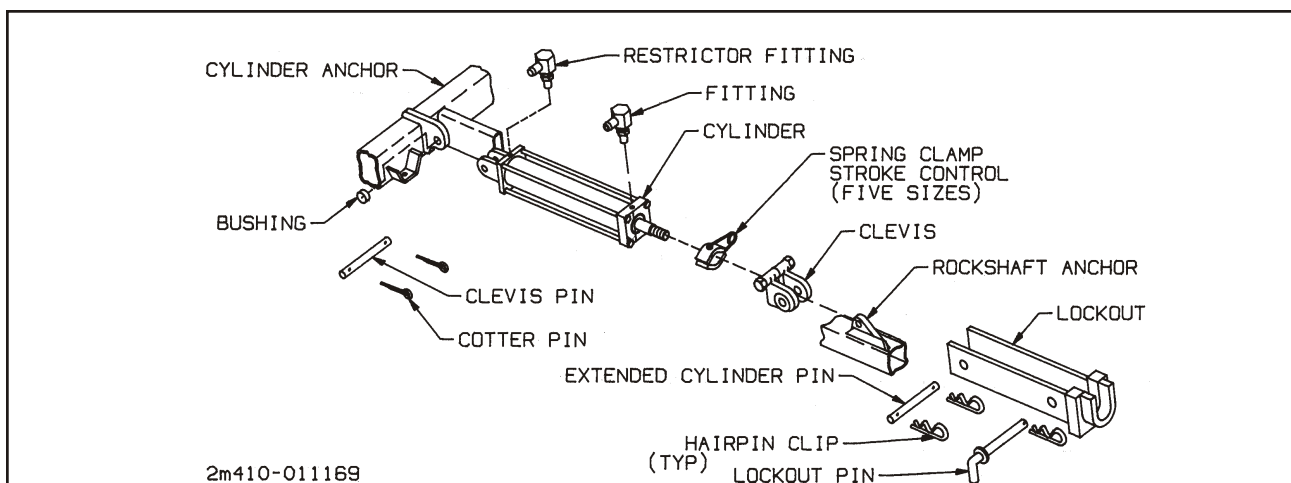

Figure 3-3 2225 Gauge Wheel Cylinder Installation
- 3-3.7** Install the base end of the gauge wheel cylinders on the frame cylinder anchors. Face the rod end down, towards the gauge wheel, and face the ports upwards (**See Figure 3-3**). Secure each cylinder to the cylinder anchor with the clevis pins and cotter pins supplied with the cylinder.
- 3-3.9** Insert the extended cylinder pin through the lockout assembly, the cylinder clevis and the gauge wheel arm bracket (**See Figure 3-3**). Secure with hairpin clips.